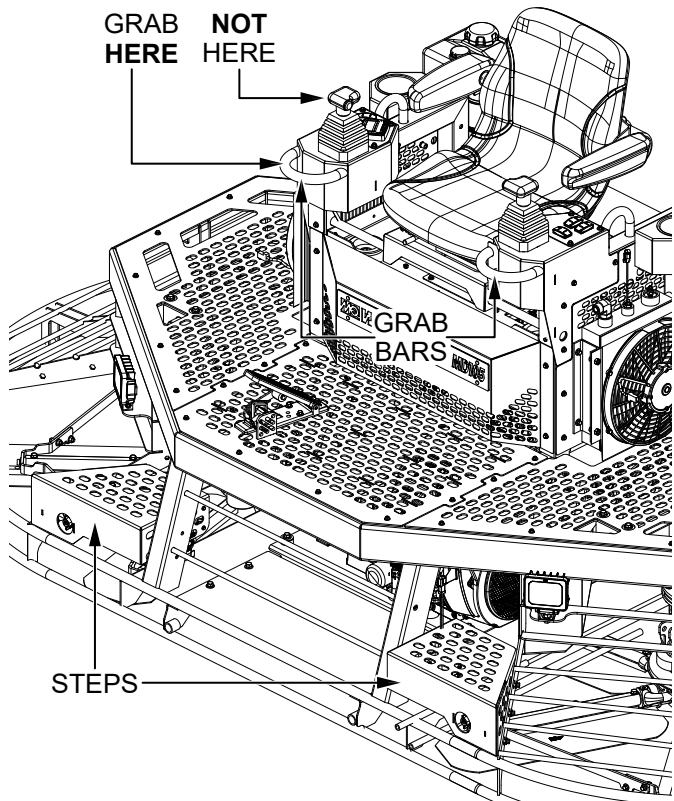

Figure 18. Grab Bars
1. While standing in front of the trowel, grasp one of the **grab bars** and place a foot on one of the **steps**. Lift yourself onto the trowel platform and sit down in the operator's seat (Figure 18).